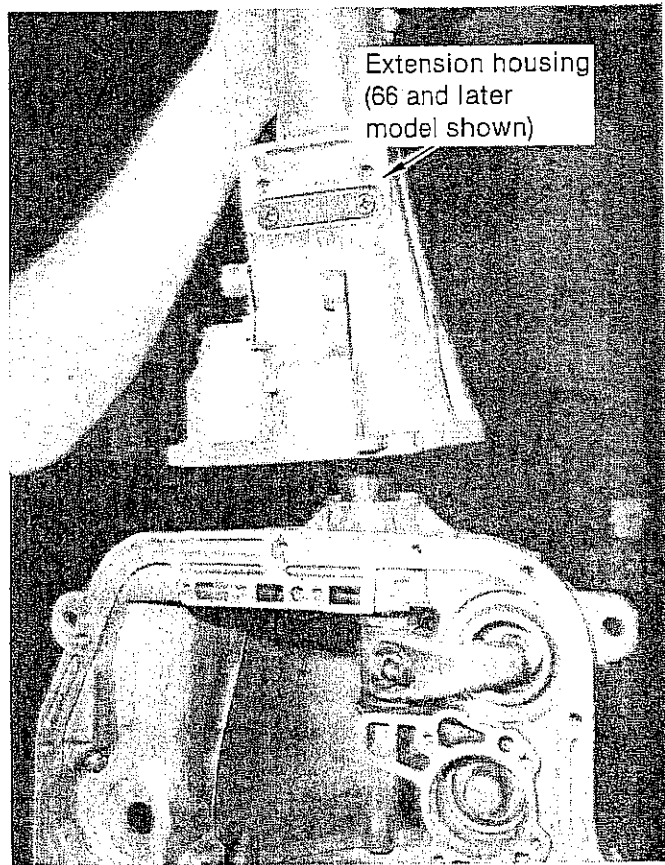

FIGURE 18
**STEP 11.** Turn the transmission case so the bell-housing is face down. Remove six extension housing bolts and put them in the oil pan. Remove the extension housing assembly from the transmission case. (See Fig. 18) Discard the extension housing gasket. Set the extension housing assembly aside. '62-'65 models: There is 1/4" steel ball in a pocket just in front of the governor support on the output shaft. Do not lose this ball as it drives the rear pump.